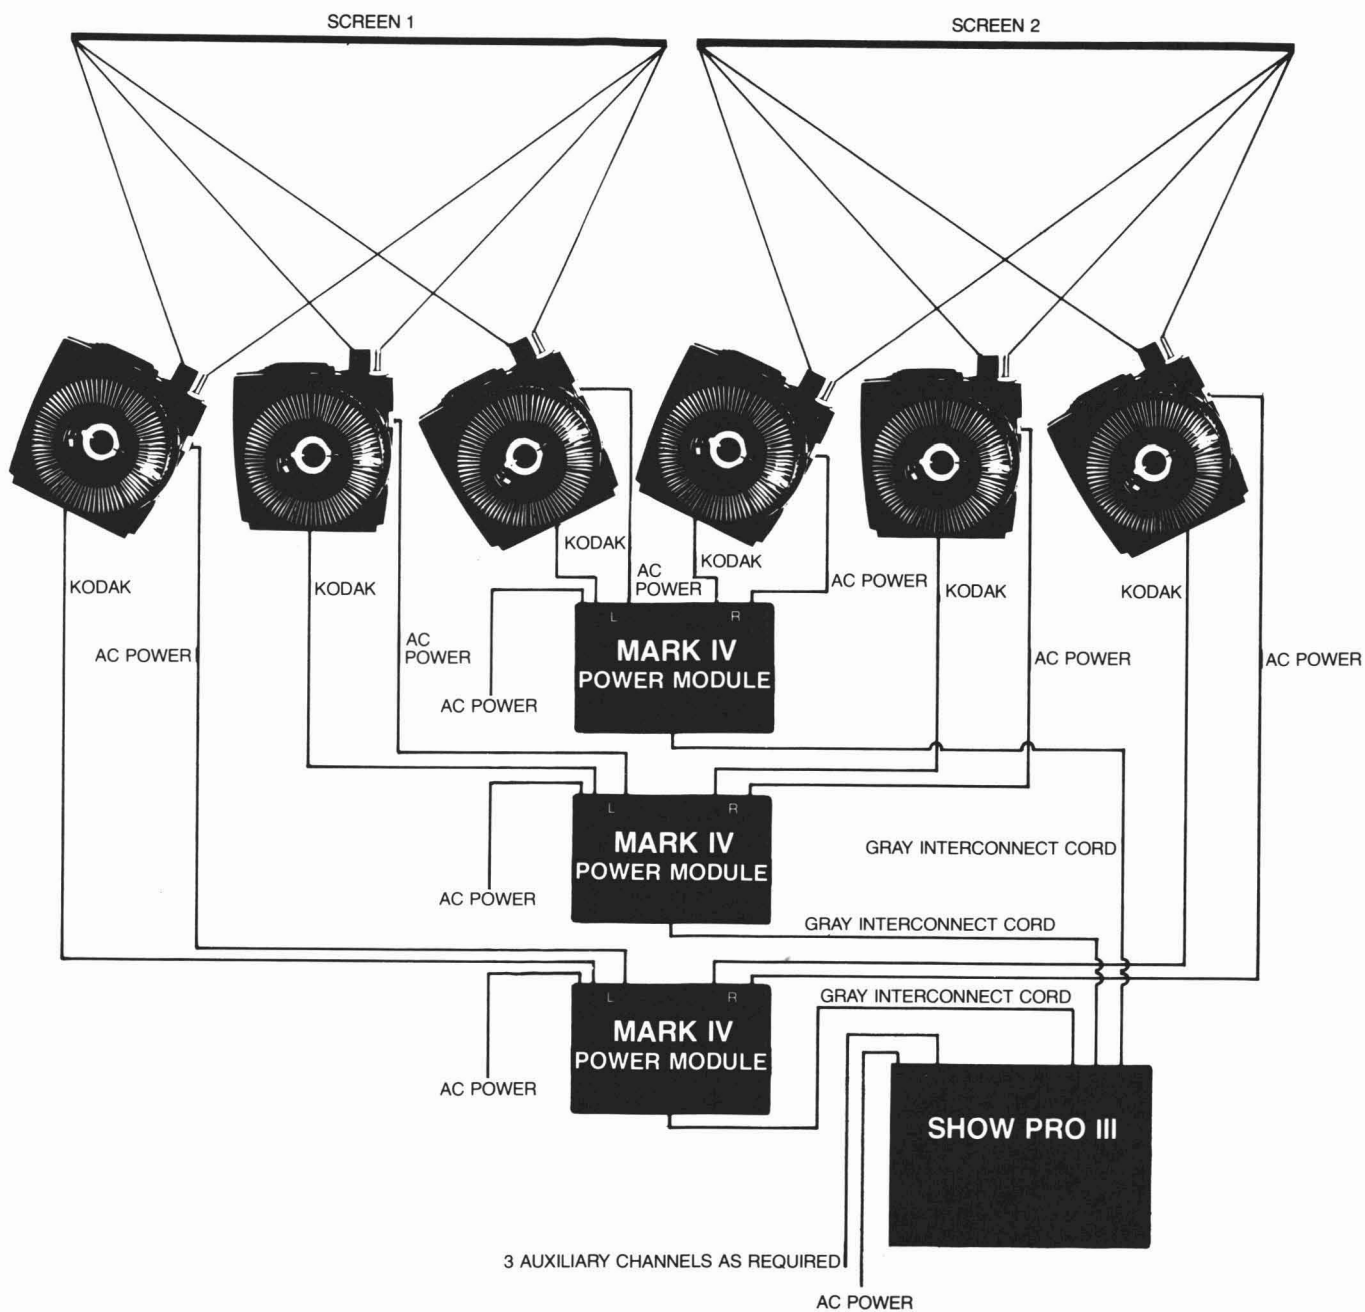

Figure 2
- Two screens with three projectors each **(Figure 2, page 10)**